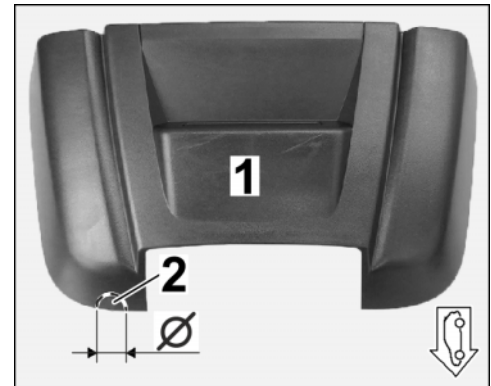

Figure 14
2.4 **ONLY** for RoW vehicles: Make groove for mounting plate wiring harness in rear-view mirror (interior ⇒ Figure 14) cover.